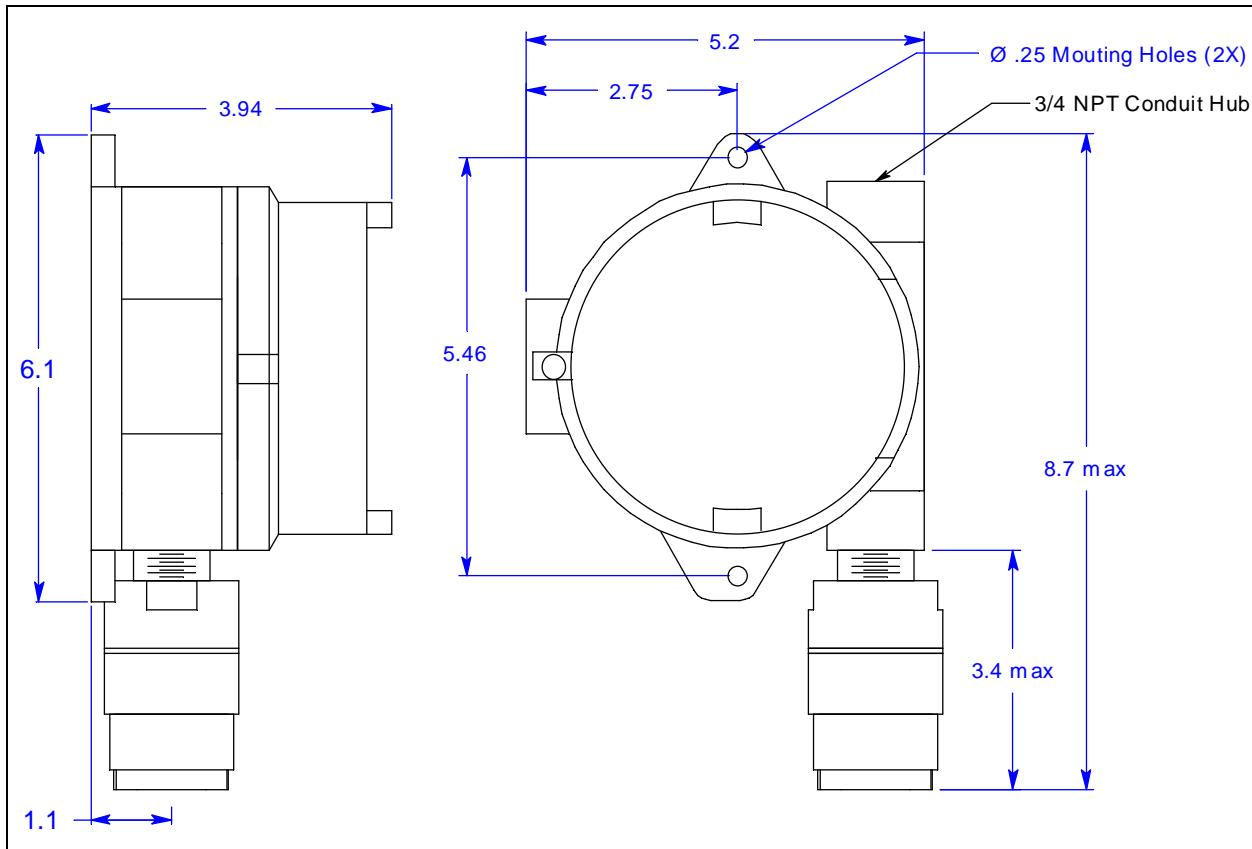

Figure 3: Mounting the H₂S Transmitter
4. Verify that the detector leads are wired to the amplifier's detector terminal strip. If necessary, connect the detector leads to the detector terminal strip as shown in Figure 3.
5. Verify that the jumper block is installed over the **TOXIC** selector of the amplifier type selector as shown in Figure 3.
7. Connect the two wires to the interconnect terminal strip as follows (see Figure 3).
10. Connect the wires to the applicable controller transmitter terminal strip as shown in Figure 3.